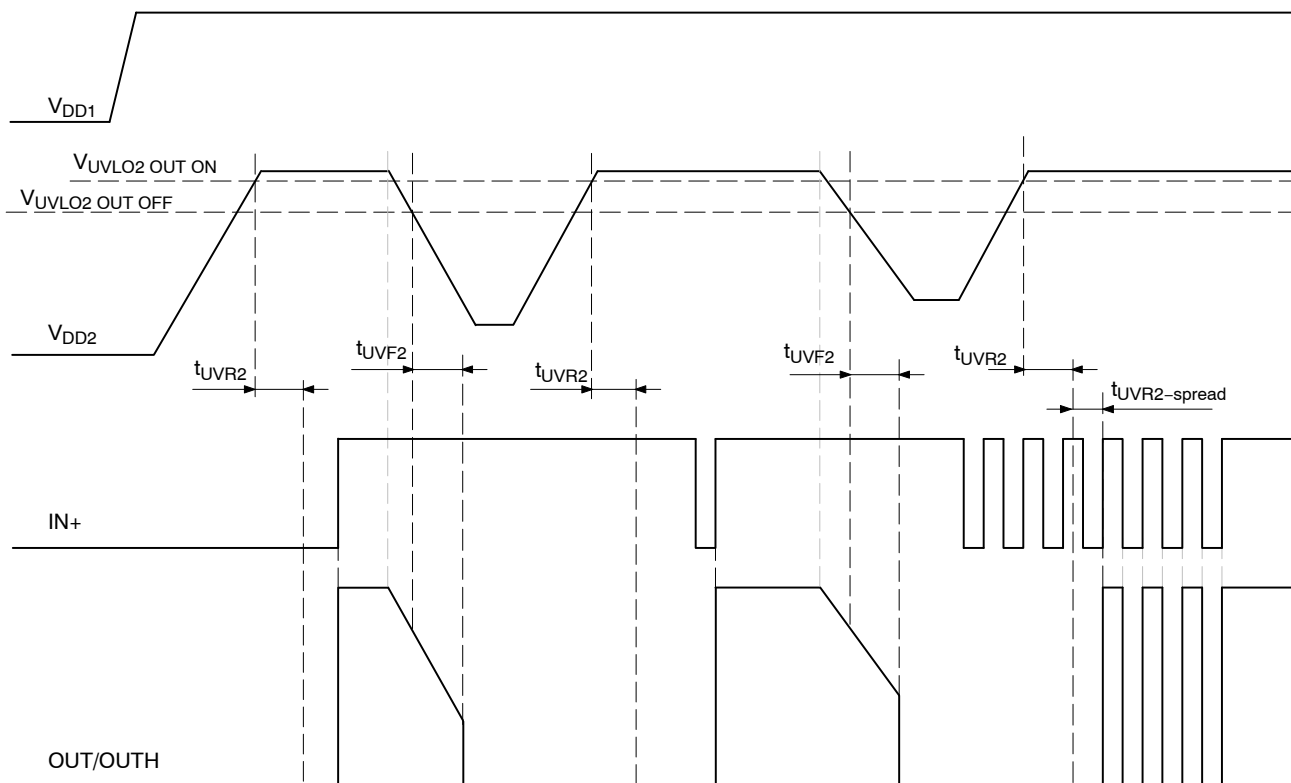

**Figure 8A. UVLO1 and Associated Timing Waveforms**
**Under Voltage Lockout (Refer to Figure 8A/8B/8C/8D)**